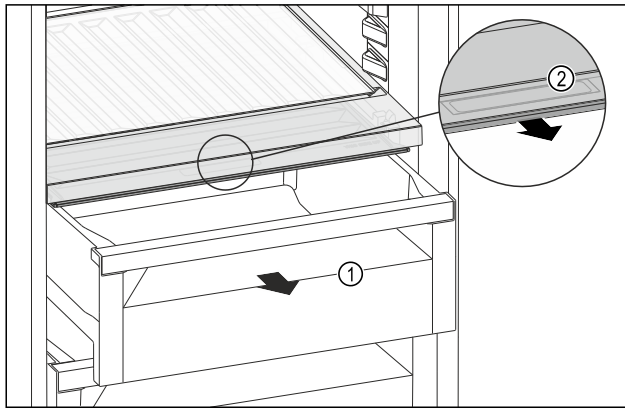

Fig. 170
- ▶ Pull out the drawer Fig. 170 (1).
- ▶ Grasp the recessed grip Fig. 170 (2) on the compartment lid and pull the compartment lid forwards at the same time.